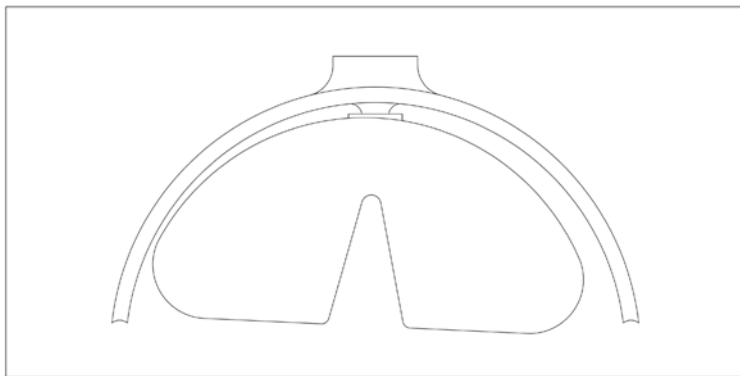

Figure 1: Misalignment of Cover Plate of Electric Reed Vibrator with Inside Diameter of Proving Ring
- 6-** In special cases, particularly in the smaller capacity Proving Rings, it is impossible to back-off the armature stem hex head screw enough to permit the Electric Reed Vibrator to start. This is usually caused by an improper clamping action of the brass lock pin which causes the Vibrator to shift out of alignment. This condition is readily noticed by observing the alignment of the front diameter of the Proving Ring (see Figure 1).